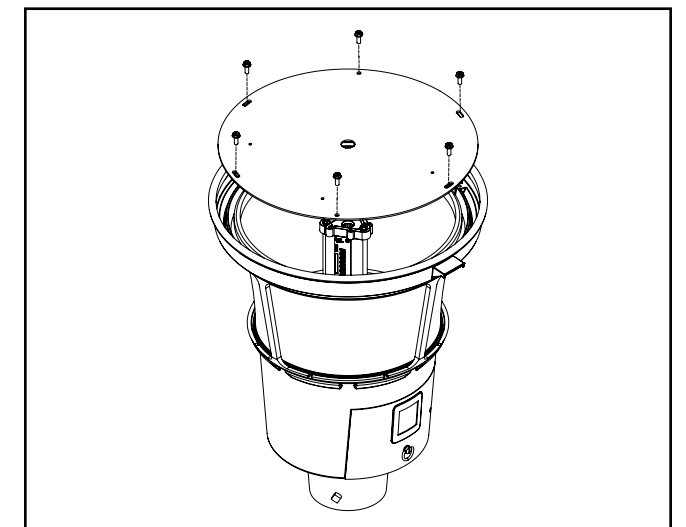

Figure 6.
3. Unscrew six #10-24 screws holding the cover plate. (Figure 6)